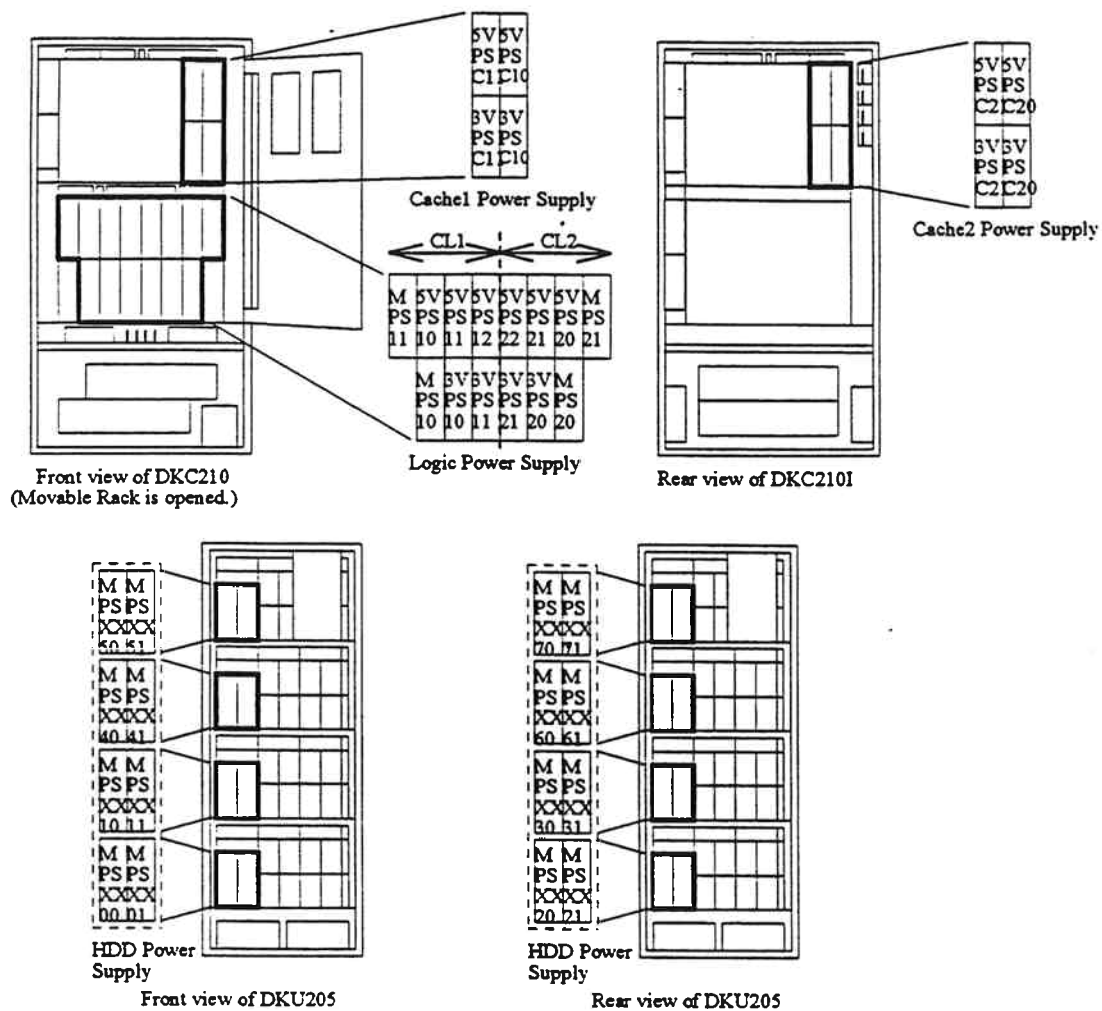

Fig. 9.1-1 Location of Voltage Check Point
- Fig. 9.1-1 'Location of Voltage Check Point on PERIOD 02-20